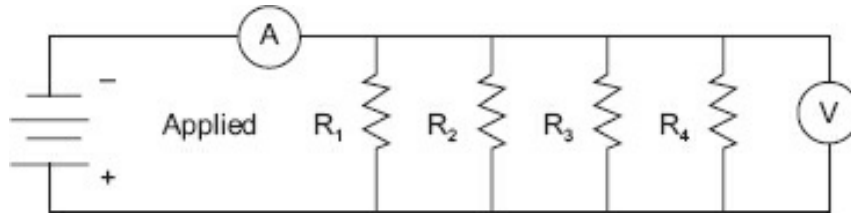

Figure R1-2.
10. Determine the requested values in problems A through C based on Figure R1-2.